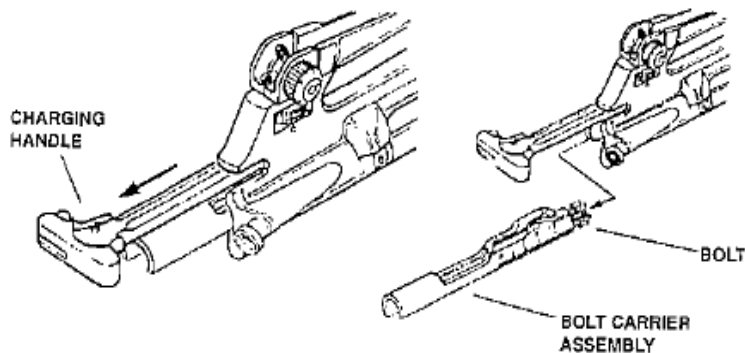

FIGURE 12 — REMOVE BOLT CARRIER ASSEMBLY
- You may now pull back on the charging handle to remove the bolt carrier assembly (figure 12)